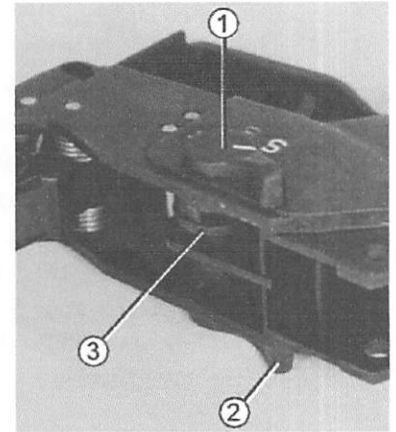

Fig. 56 Replacement of safety lever and safety lever axle
- ⇒ Press catch (Fig. 56/3) downwards and rotate safety lever upwards beyond the S setting (Fig. 56).
- ⇒ Remove safety lever axle (Fig. 56/2) to the left and/or